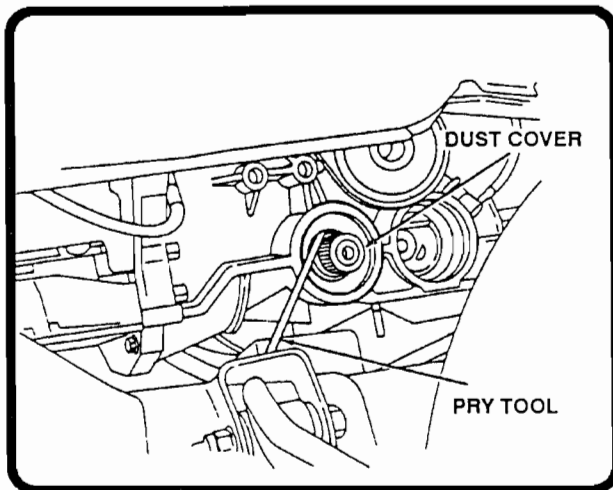

Figure 1
1. Remove dust cover with pry tool (Figure 1).